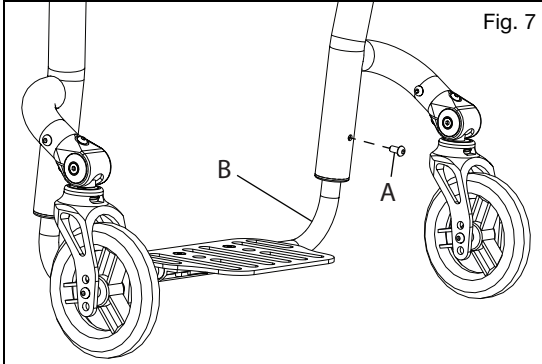

Fig. 7
1. Loosen the set screw (Fig. 7:A) on each side of the frame using a 3mm Allen wrench. Do not remove the screws.
2. Adjust the footrest tube up or down to achieve the desired height (Fig. 7:B).